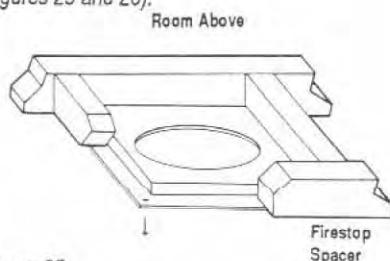

Figure 25
**Step 3.** Position appropriate firestop spacer at ceiling and nail temporarily with two (2) 8d nails. Use flat firestop spacer, Model 10FS\*, if chimney penetrates ceiling vertically. If chimney penetrates ceiling at 30° angle (offset chimney), use Model 10FS30\*. Use one nail on opposite sides to hold firestop spacer in position. Nail permanently, using at least two (2) more 8d nails, after chimney sections have been assembled through the firestop spacer and after any necessary adjustments have been made. Firestop spacer must be secured by at least four (4) 8d nails when completely installed.
**Note:** If there is a room above ceiling level, firestop spacer must be installed on the bottom side of the ceiling. If an attic is above ceiling level, firestop spacer must be installed on top side of ceiling joist (Figures 25 and 26).